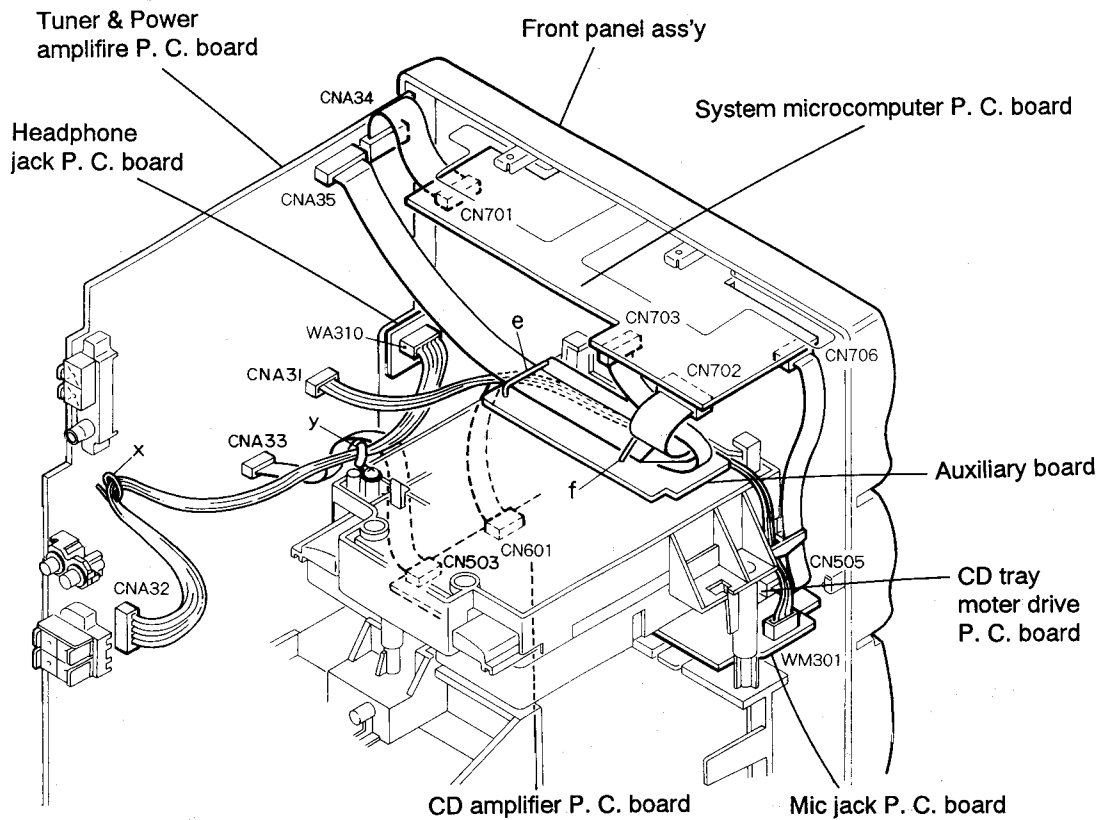

Fig. 5-9
6. From connector CN702 on the LCD and system microcomputer P.C. board, remove the card wire outgoing from the connector CNA35 on the tuner & power amplifier P.C. board (Refer to Fig. 5-9).
7. From the connector CN701 on the LCD and system microcomputer P.C. board, remove the card wire outgoing from the connector CNA34 on the tuner & power amplifier P.C. board (Refer to Fig. 5-9).
9. From the connector CN706 on the system micro-computer P.C. board, remove the card wire outgoing from the connector CN505 on the CD tray motor drive P.C. board (Refer to Fig. 5-9).
10. From the connector CNA31 on the tuner power amplifier P.C. board, remove the 4 PIN connector outgoing from the connector WM301 on the MIC jack P.C. board. Then, remove the 4 PIN connector from the two wire clamps on the auxiliary P.C. board and dismount the front panel ass'y (Refer to Fig. 5-9).